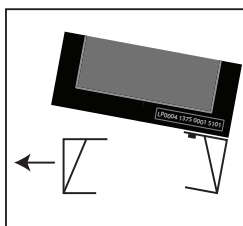

Figure 2.3
3. Carefully tilt the safe away from the unbolted side and pull the leg out from under the safe (Figure 2.3).